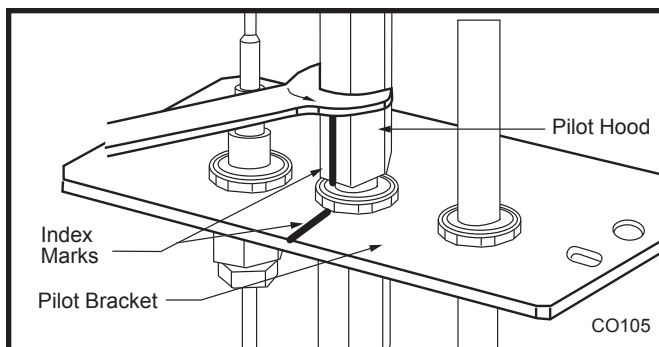

Fig. 60 Remove pilot hood. (Your pilot may have a different appearance.)
- Loosen pilot hood turning counterclockwise using a 7/16" wrench. (Fig. 60) **NOTE:** You may use penetrating oil to prevent pilot hood threads from seizing up.